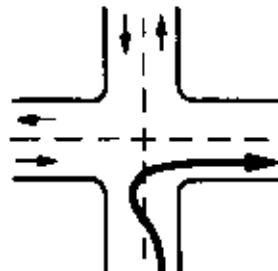

Figure 2-12.
- Don't turn wide to the left as you start the turn, as shown in Figure 2-12. A following driver may think you are turning left and try to pass you on the right. You may crash into the other vehicle as you complete your turn.